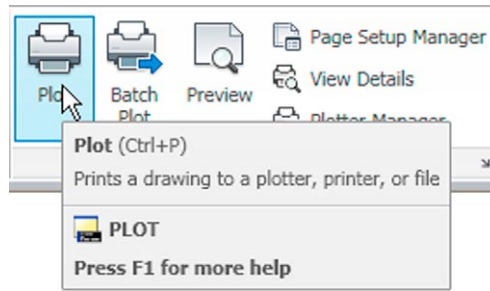

Fig. 15.34 The Plot icon in the Output/Plot panel
1. With a drawing to be printed or plotted on screen *click* the **Plot** tool icon in the **Output/Plot** panel (Fig. 15.34).